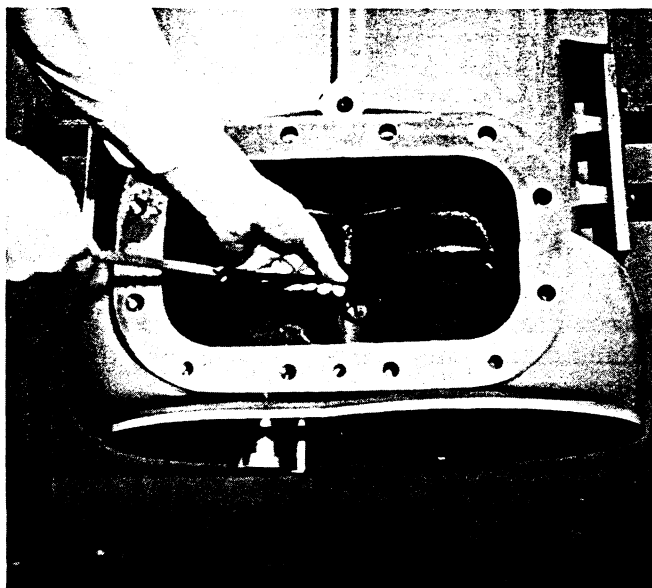

Figure 34
23. With a feeler gauge through the air intake port, measure the intake end clearance of each lobe of each rotor. Refer to Figure 34. This is dimension "D".